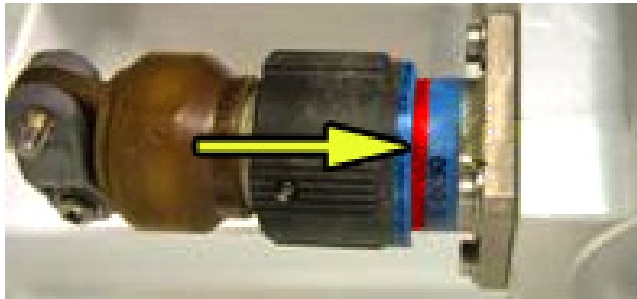
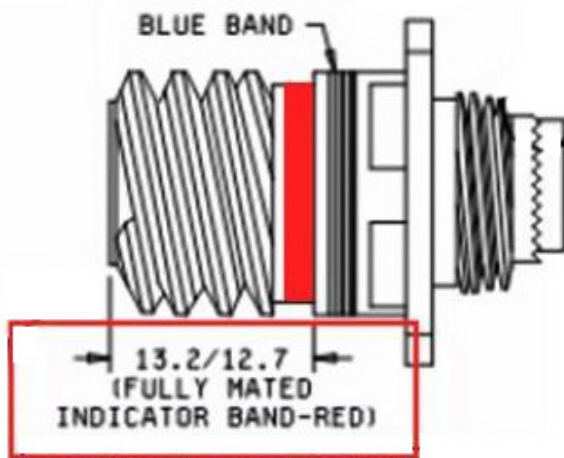

Figure 41. Exposed Red Band
Figure 42. Verify Red Band Location
a. Inspect connector and contacts for damage prior to mating. To mate, align the connector master keyway to that of the receptacle and couple the connector. Ensure that it is fully and securely mated, refer to Figure 41 for examples of most typical connector mating inspections. If red indicator band is visible on MIL-DTL-38999 connectors, perform additional steps in following paragraph 61.
c. Verify that the plug and receptacle are properly mated and fully coupled such that the receptacle red band is covered by the plug's coupling ring (Figure 41).
d. If the red band is not covered (Figure 41), then using measuring device, gage, etc., verify location of the red band. The length from the end of the receptacle to the far edge of the red band is 12.7-13.2 mm (.499-.519 in.) per MIL-DTL-38999 (Figures 42 and 43).